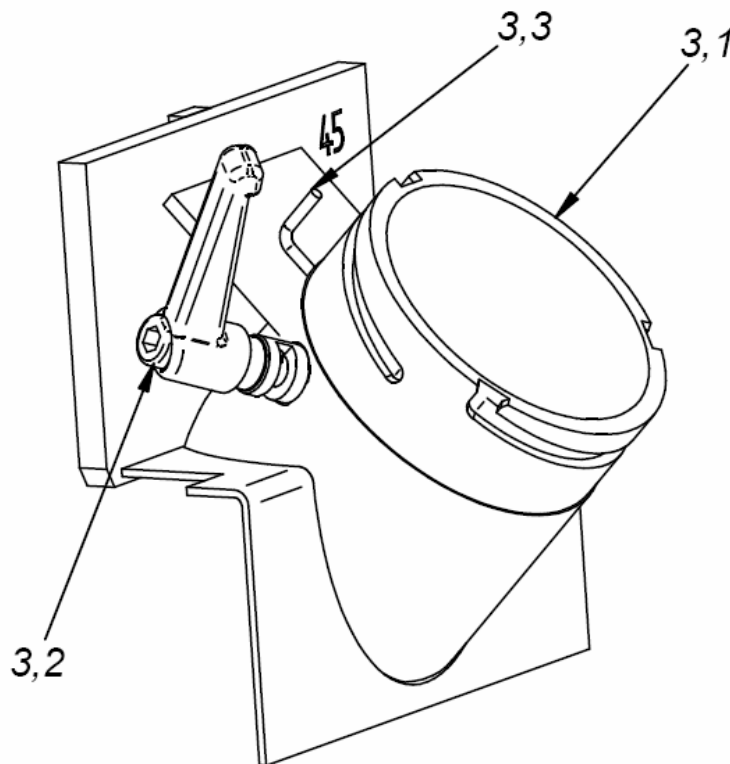

Fig. 5 Milling unit holder
- b) Release beveling size interlock (fig.5 item 3.2)
- d) Pull milling unit out of milling unit holder (fig.5)
2. Press shaft interlock (item 8.3)
3. Unscrew head set screw (item 8.2)